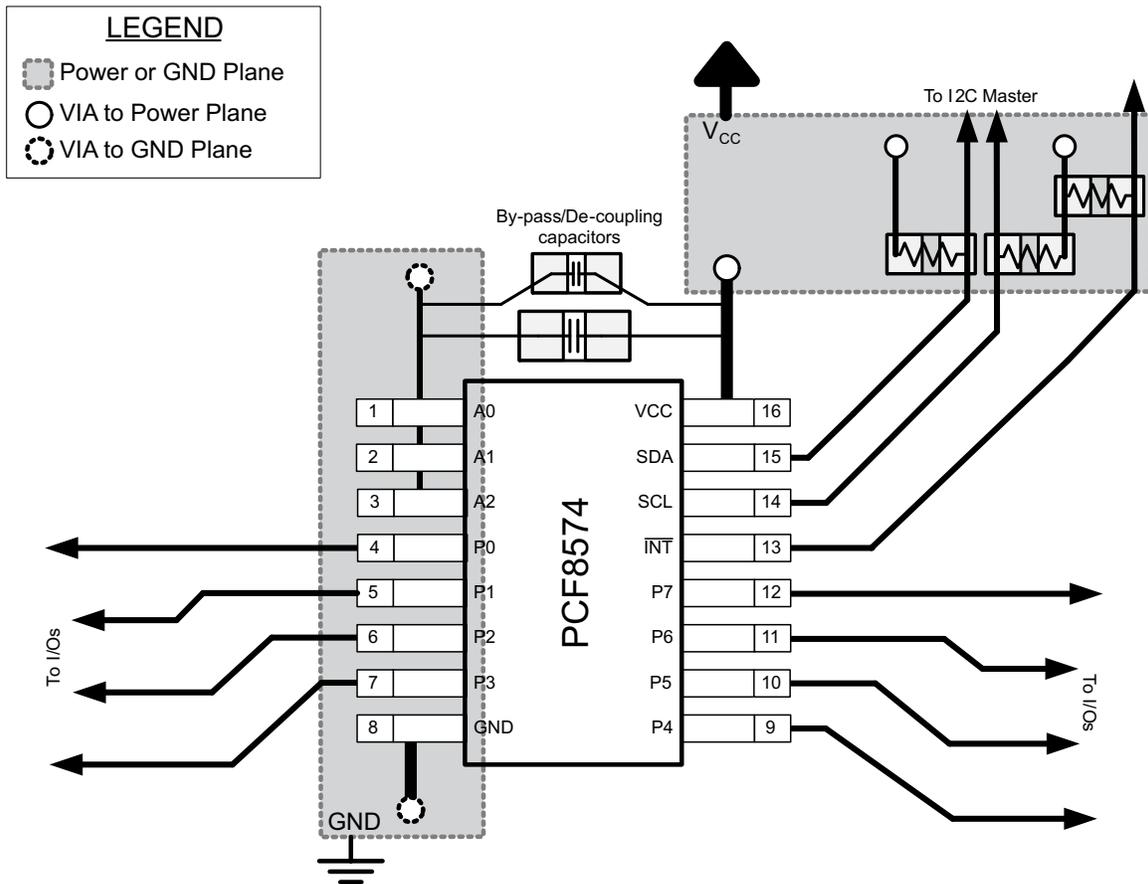

图 8-10. Layout Example for PCF8574
In all PCB layouts, it is a best practice to avoid right angles in signal traces, to fan out signal traces away from each other upon leaving the vicinity of an integrated circuit (IC), and to use thicker trace widths to carry higher amounts of current that commonly pass through power and ground traces. By-pass and de-coupling capacitors are commonly used to control the voltage on the VCC pin, using a larger capacitor to provide additional power in the event of a short power supply glitch and a smaller capacitor to filter out high-frequency ripple. These capacitors should be placed as close to the PCF8574 device as possible. These best practices are shown in 图 8-10.
For the layout example provided in 图 8-10, it would be possible to fabricate a PCB with only 2 layers by using the top layer for signal routing and the bottom layer as a split plane for power (VCC) and ground (GND). However, a 4 layer board is preferable for boards with higher density signal routing. On a 4 layer PCB, it is common to route signals on the top and bottom layer, dedicate one internal layer to a ground plane, and dedicate the other internal layer to a power plane. In a board layout using planes or split planes for power and ground, vias are placed directly next to the surface mount component pad which needs to attach to VCC or GND and the via is connected electrically to the internal layer or the other side of the board. Vias are also used when a signal trace needs to be routed to the opposite side of the board, but this technique is not demonstrated in 图 8-10.